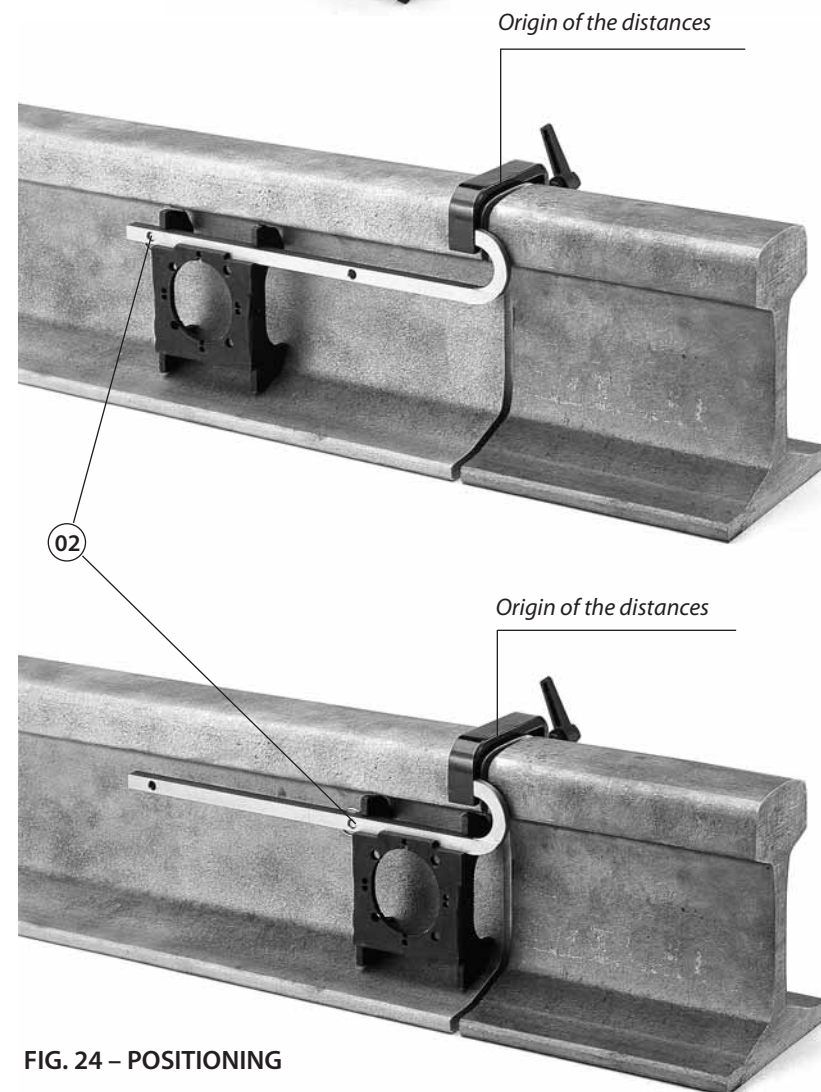

FIG. 24 – POSITIONING
- the **MPAF...** positioning template is flush against the locking bolt (02).
- (see Fig. 24).